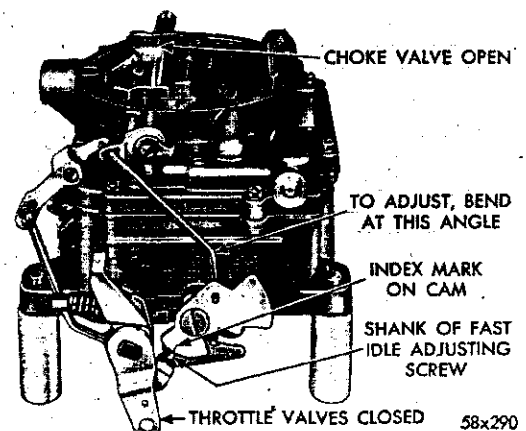

Fig. 14—Fast Idle Cam Indexing
(1) Open the throttle valves to wide open position. Close the choke valve tightly and then close the throttle valves. This will position the fast idle cam to fast idle. The index mark on the cam should split the center of the fast idle adjusting screw, as shown in Figure 14.
(2) If an adjustment is necessary, bend the fast idle connector rod at the angle, using Tool T109-213, until the index mark on the cam indexes the fast idle adjusting screw.